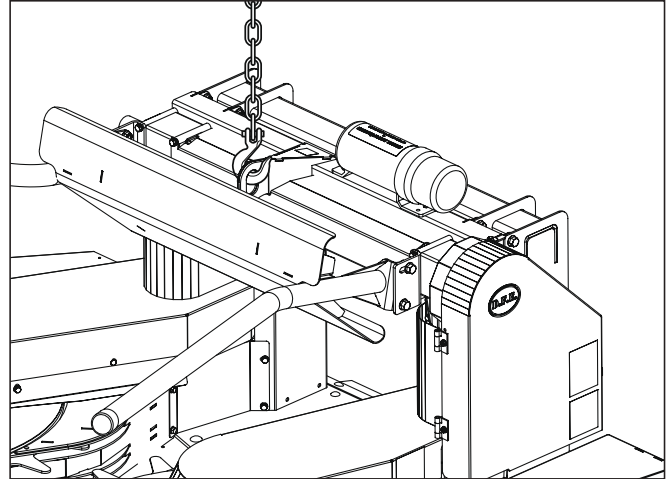

Figure 11 Lift support
The rotary corn attachment is equipped with a support (figure 11) to lift attachment up for proper installation. The minimum lifting load must be 2000 lbs (900 Kg).
1. Attach a chain to the lift support (figure 11).